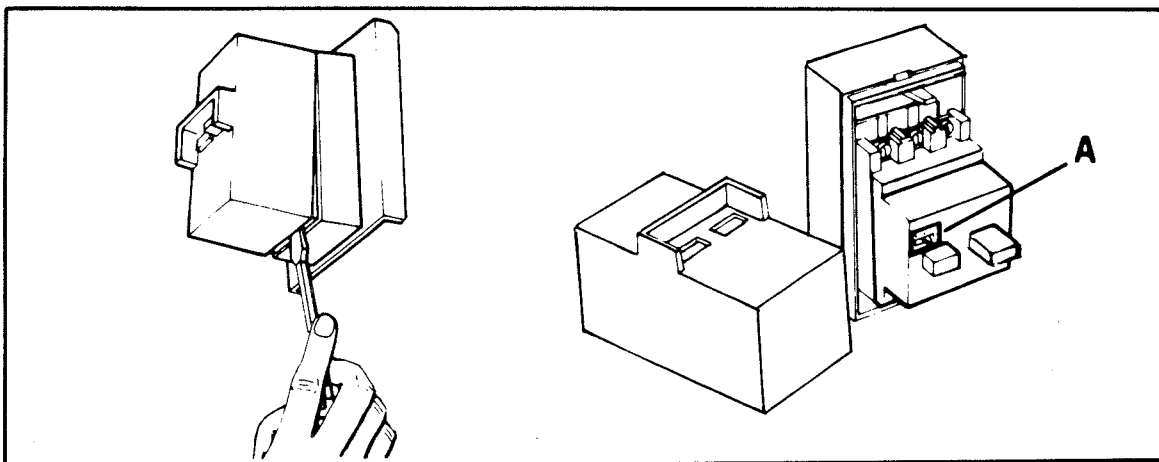

FIGURE 22
The Case Sealer is equipped with a circuit breaker which trips the "On-Off" switch to "OFF" position. Located inside the electrical control box on the side of the main frame just below the conveyor bed, the circuit breaker has been pre-set for 5 amps and requires no further maintenance. Should the circuit breaker be replaced, check the amp setting before installation. Remove the front cover on the electrical box from the under side as shown in figure 22 and set the amp setting (A) at 5 amps.